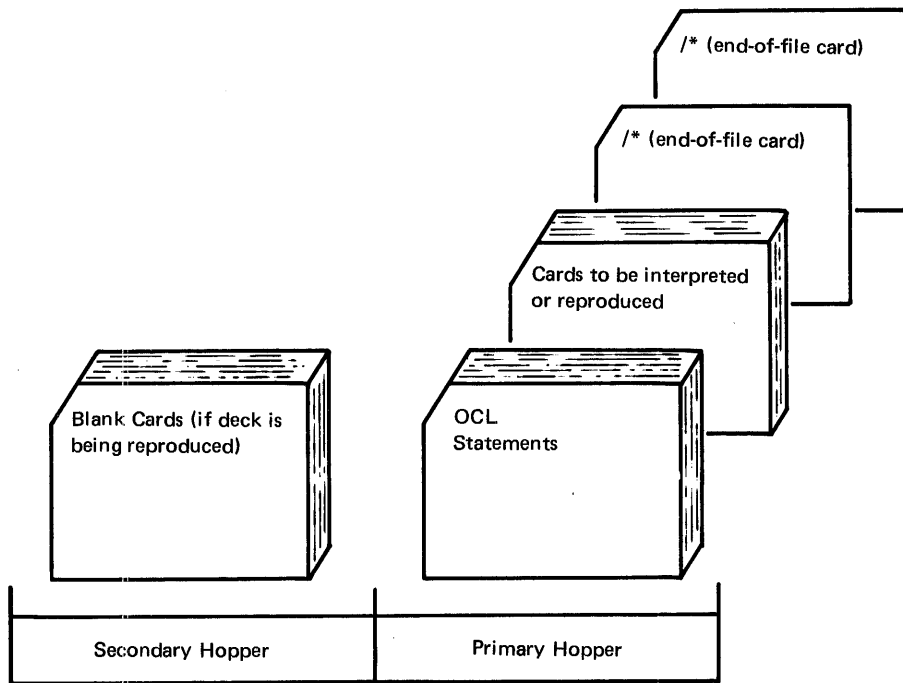

Figure 25. Input Deck for Reproduce or Interpret Without Reformatting
3. Place OCL statements, followed by cards required for the job, in primary hopper of MFCU. Load cards face down, top edge to the left. Be sure two end-of-file (/\*) cards are at the end of the deck. Several reproduce and interpret jobs can be placed in the MFCU at the same time. Place the cards in the order shown in Figures 25 and 26. Each deck, however, must be followed by two end-of-file cards.